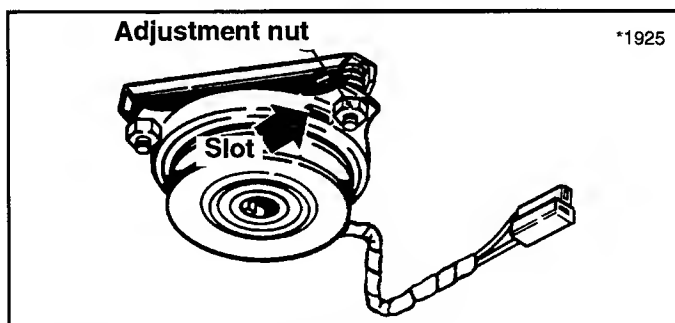

Figure 31. PTO Clutch Adjustment
2. Use a 0.010 - 0.012 feeler gauge to check the PTO at three places. See Figure 31. Insert the gauge between the drive spring rivets. There should be a slight resistance as gauge is moved in and out of slot. If adjustment is required, proceed to step 3.